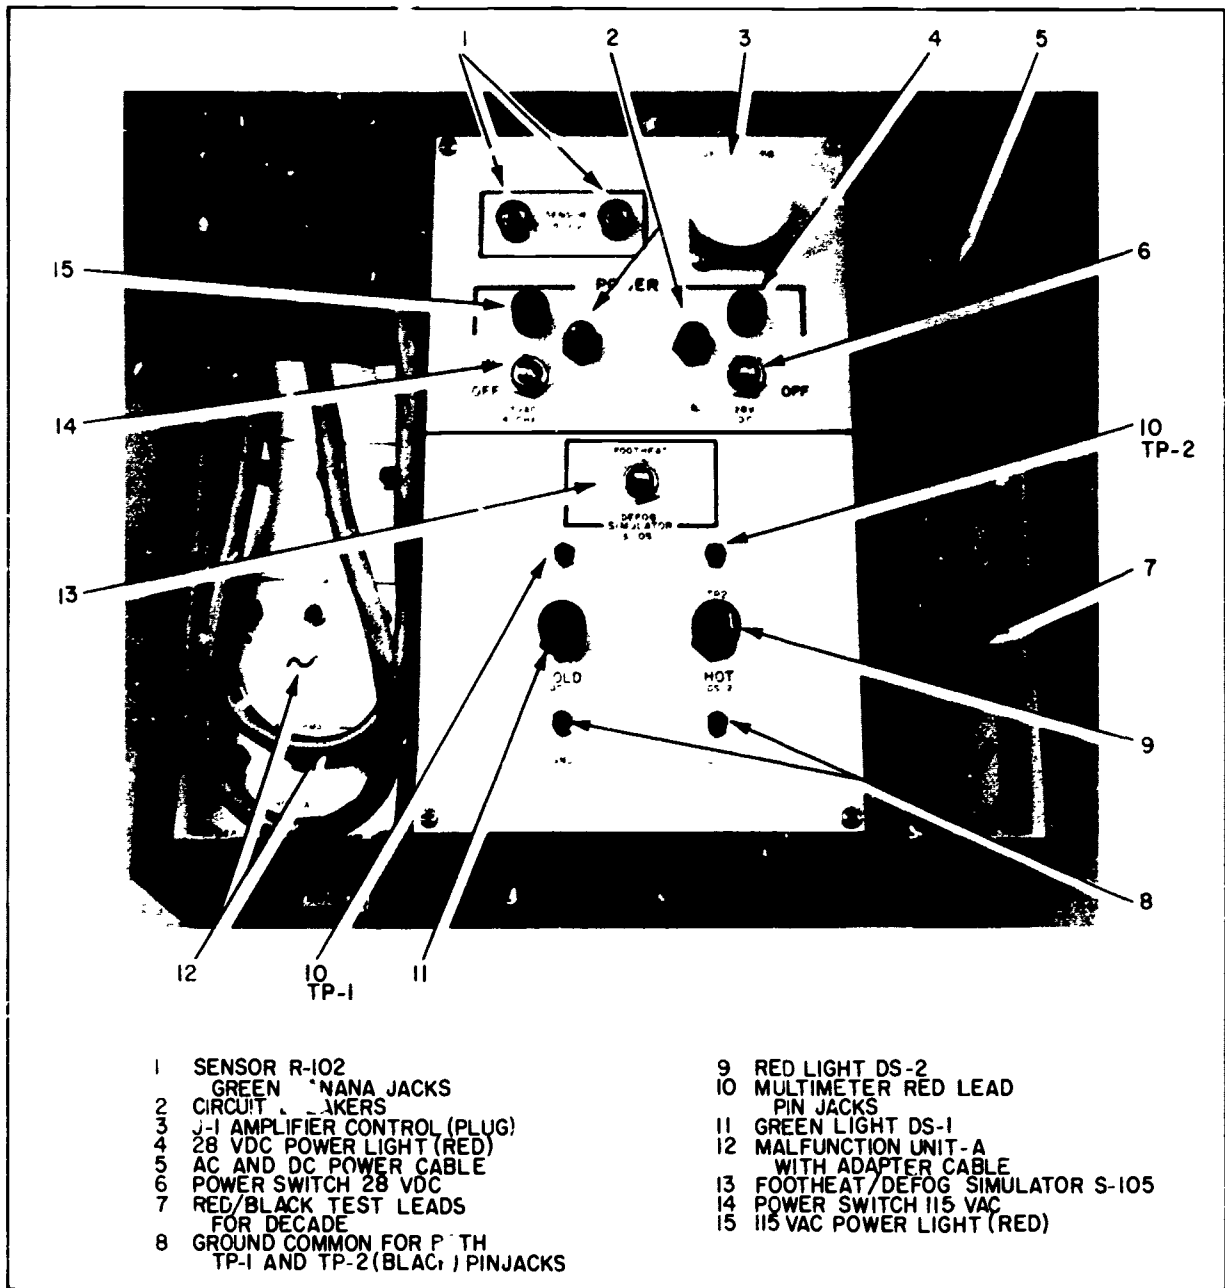

Figure 4. UNIT-A.
2. Insure the AC and DC power cables are disconnected from the power bench outlets and that cables are placed in the unit's storage area on the right side, see figures 4 and 7.
3. Insure the red and black leads for the decade are stored as in figures 4 and 7.